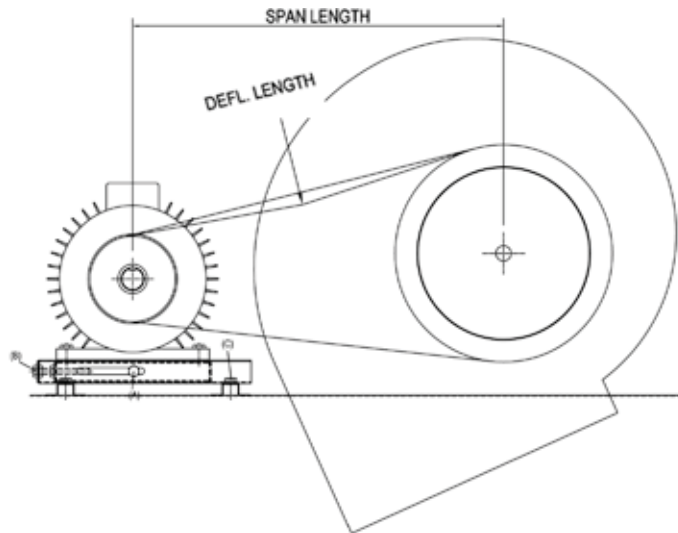

Figure 10: Belt adjustment
3. The tension on the belt should be adjusted as shown in the Belt Adjustment Figure 10.